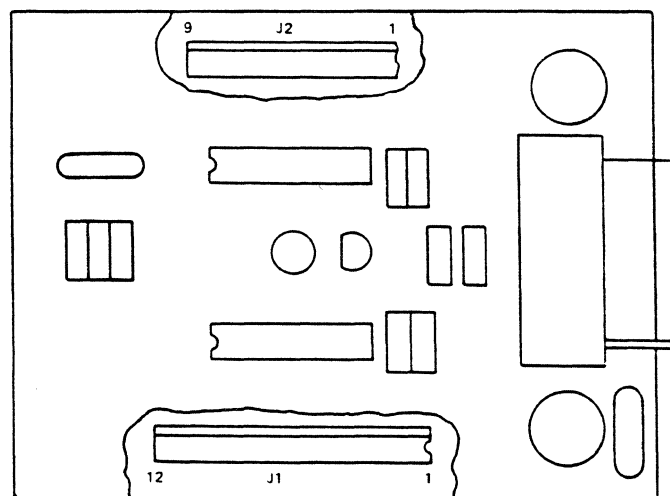

Figure 7-12. Cassette Adapter Board
- e. Locate ribbon connectors J1 and J2 on the cassette adapter board (Figure 7-12).
- b. Reconnect cables J1 and J2. **Remember, the black plastic caps on the cables must always make contact with the nylon protrusions** (Figure 7-12).